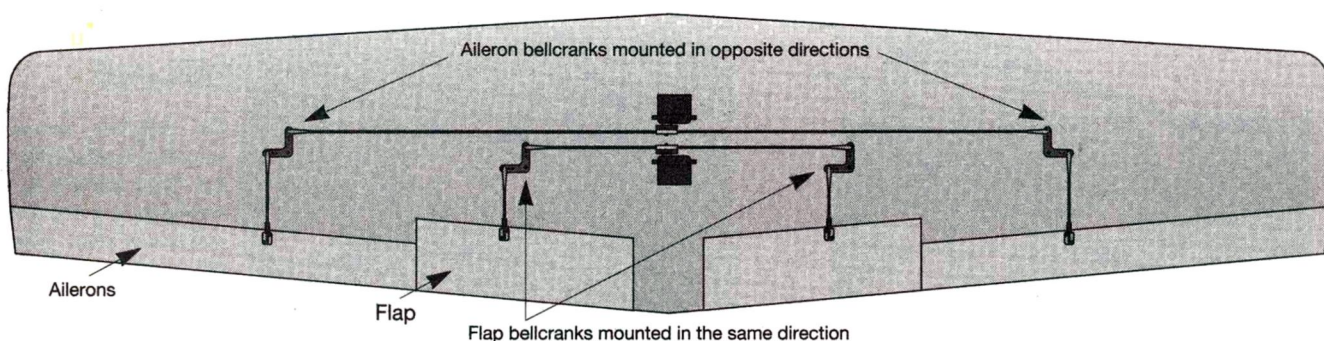

Figure 1. A typical wing setup using bellcranks for ailerons and flaps.
- **Bellcrank orientation.** For aileron linkages, orient the bellcranks in opposite directions; this will produce the desired aileron movement. For flap linkages, orient both bellcranks in the same direction, as shown in Figure 1; this will produce movement in the same direction.